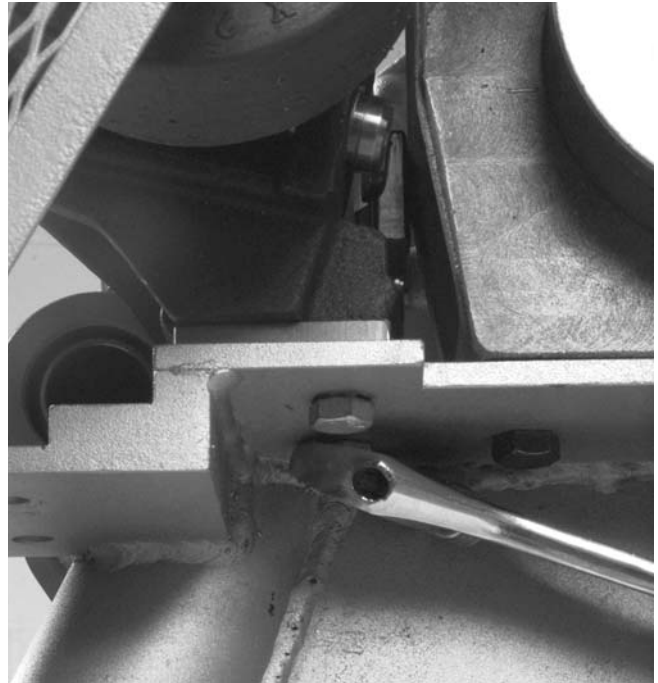

Figure 11 – Removing Bolts Holding Stabilizer
1. Remove the two $\frac{3}{8}$ " bolt that hold the stabilizer in place ($\frac{9}{16}$ " wrench or socket) (Figure 11).